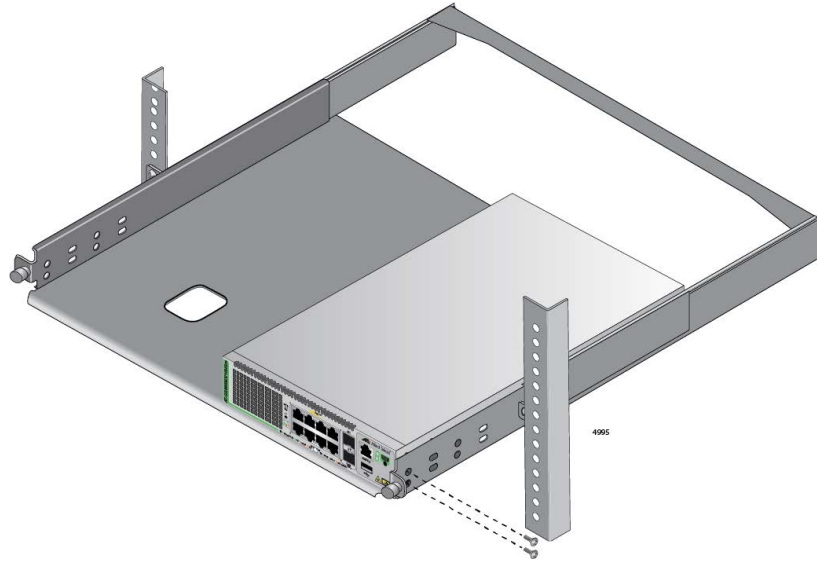

Figure 35. Securing the AT-GS980MX/10HSm Switch to the RKMT-J15 Bracket
5. Install two M4x6mm screws included with the RKMT-J15 using the first set of holes to secure the switch to the bracket. Refer to Figure 35.